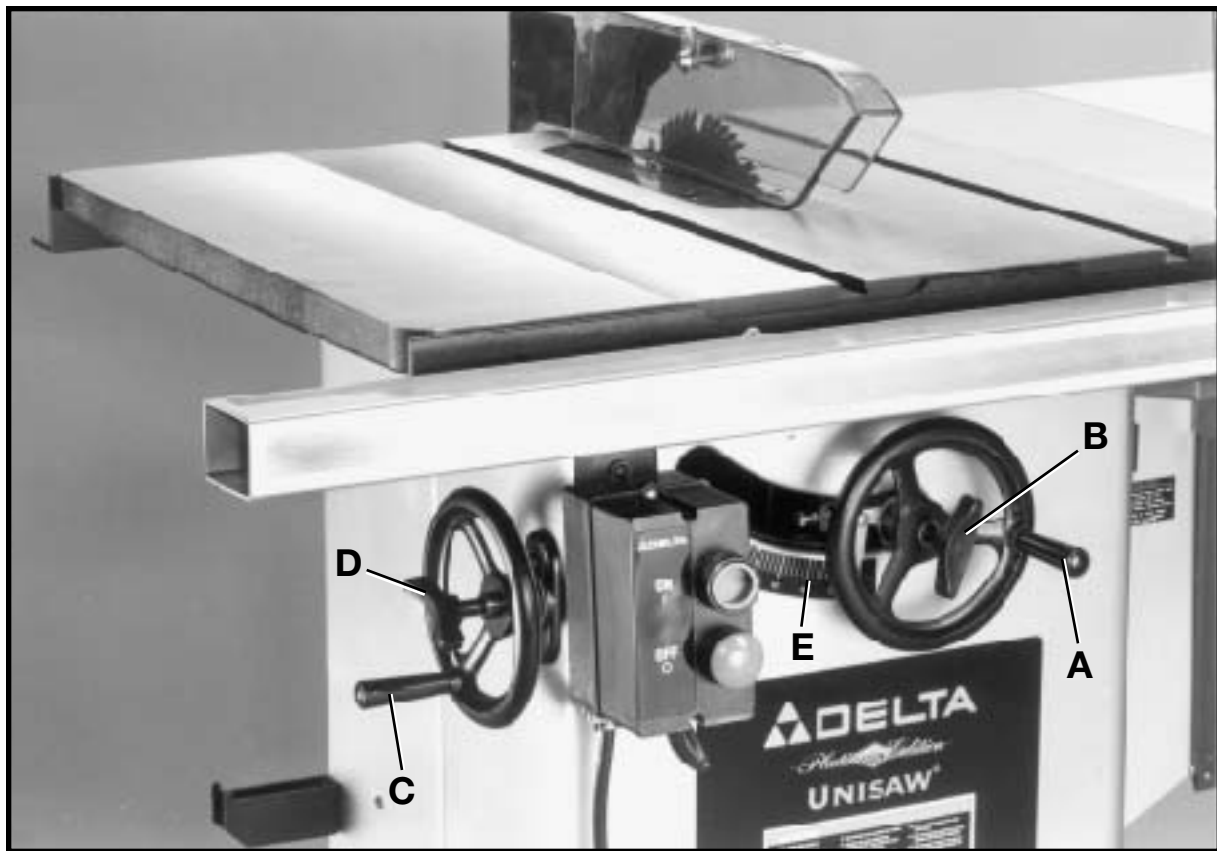

Fig. 54
The saw blade is raised and lowered with the front handwheel (A) Fig. 54. With the exception of hollow ground blades, the blade should be raised 1/8 to 1/4 above the top surface of the material being cut. With hollow ground blades, the blade should be raised the maximum to provide greater clearance. To raise the saw blade, loosen lock knob (B) Fig. 54, and turn the handwheel (A), clockwise. To lower the saw blade, turn handwheel (A) counterclockwise.
The saw blade is locked at any height by turning the lock knob (B) Fig. 54, clockwise. Due to the wedge action of this locking device, only a small amount of force is required to lock the blade raising mechanism securely. Any added force merely puts unnecessary strain on the locking device. Limit stops for raising or lowering are permanently built into the mechanism and need no further adjustment.
To tilt the saw blade to the desired angle, loosen lock knob (D) Fig. 54, and turn handwheel (C). A pointer indicates the angle of tilt on scale (E), which is marked in one-degree increments. To lock the saw blade in the desired angle of tilt, tighten lock knob (D).